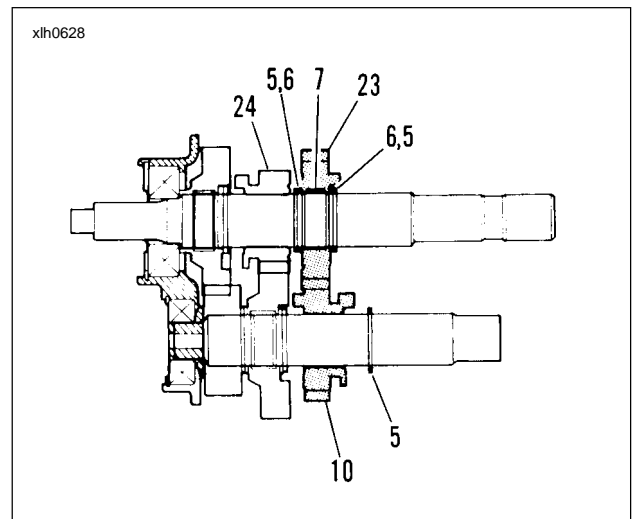

Figure 6-38.
4. Remove split bearing (7) that was under gear (11) and thrust washer (6) on the countershaft. See Figure 6-38. Remove retaining ring (5) next to countershaft 3rd gear (10). Slide countershaft 3rd gear (10) off free end of shaft.
5. At mainshaft, between mainshaft 1st gear (24) and mainshaft 3rd gear (23), expand retaining ring (5) and move next to mainshaft 1st gear along with thrust washer (6). Move mainshaft 3rd gear as far as possible toward mainshaft 1st gear (24). Expand retaining ring (5) at opposite side of mainshaft 3rd gear and slide off end of shaft. Remove mainshaft 3rd gear (23) and its split bearing (7).
6. Slide thrust washer (6) off end of mainshaft. Expand retaining ring (5), which is next to mainshaft 1st gear (24), and slide off end of shaft.